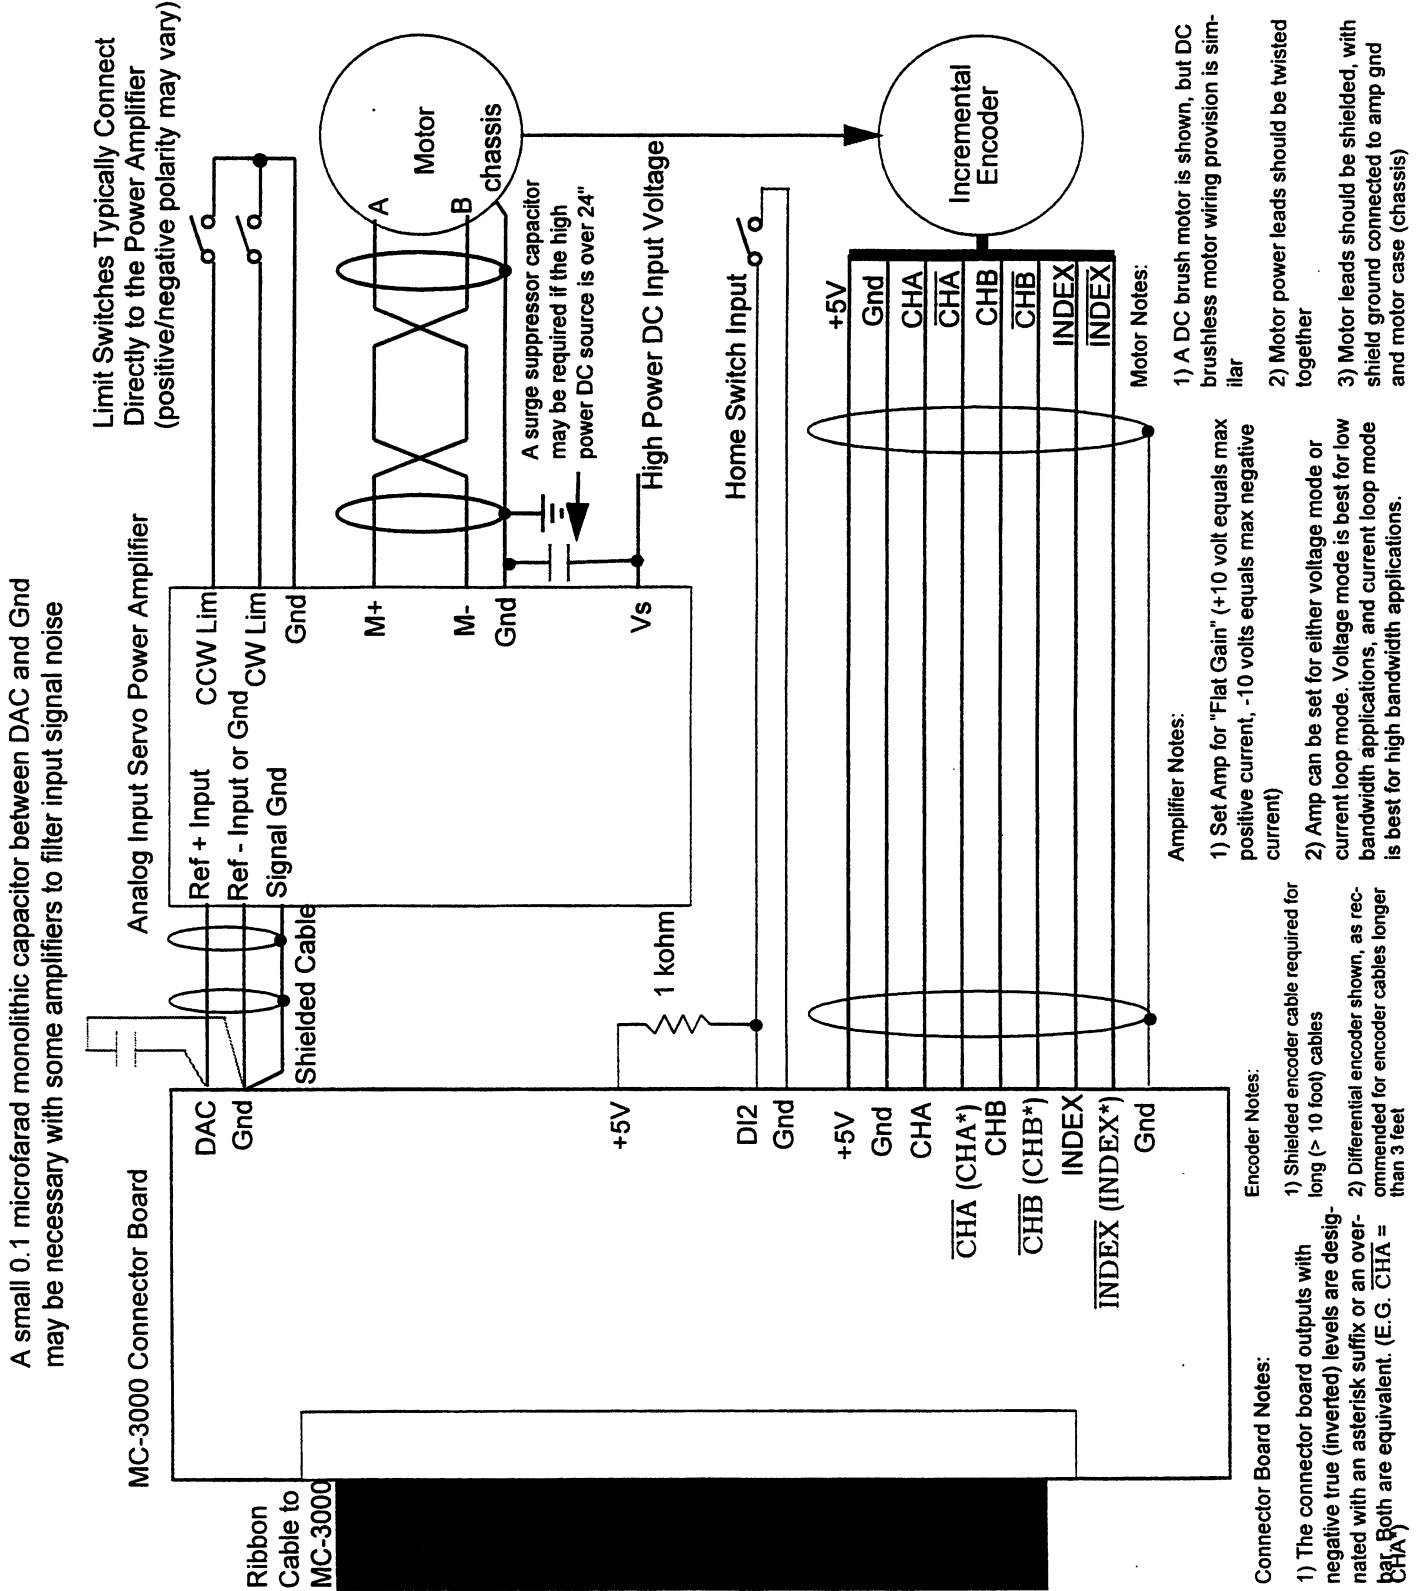
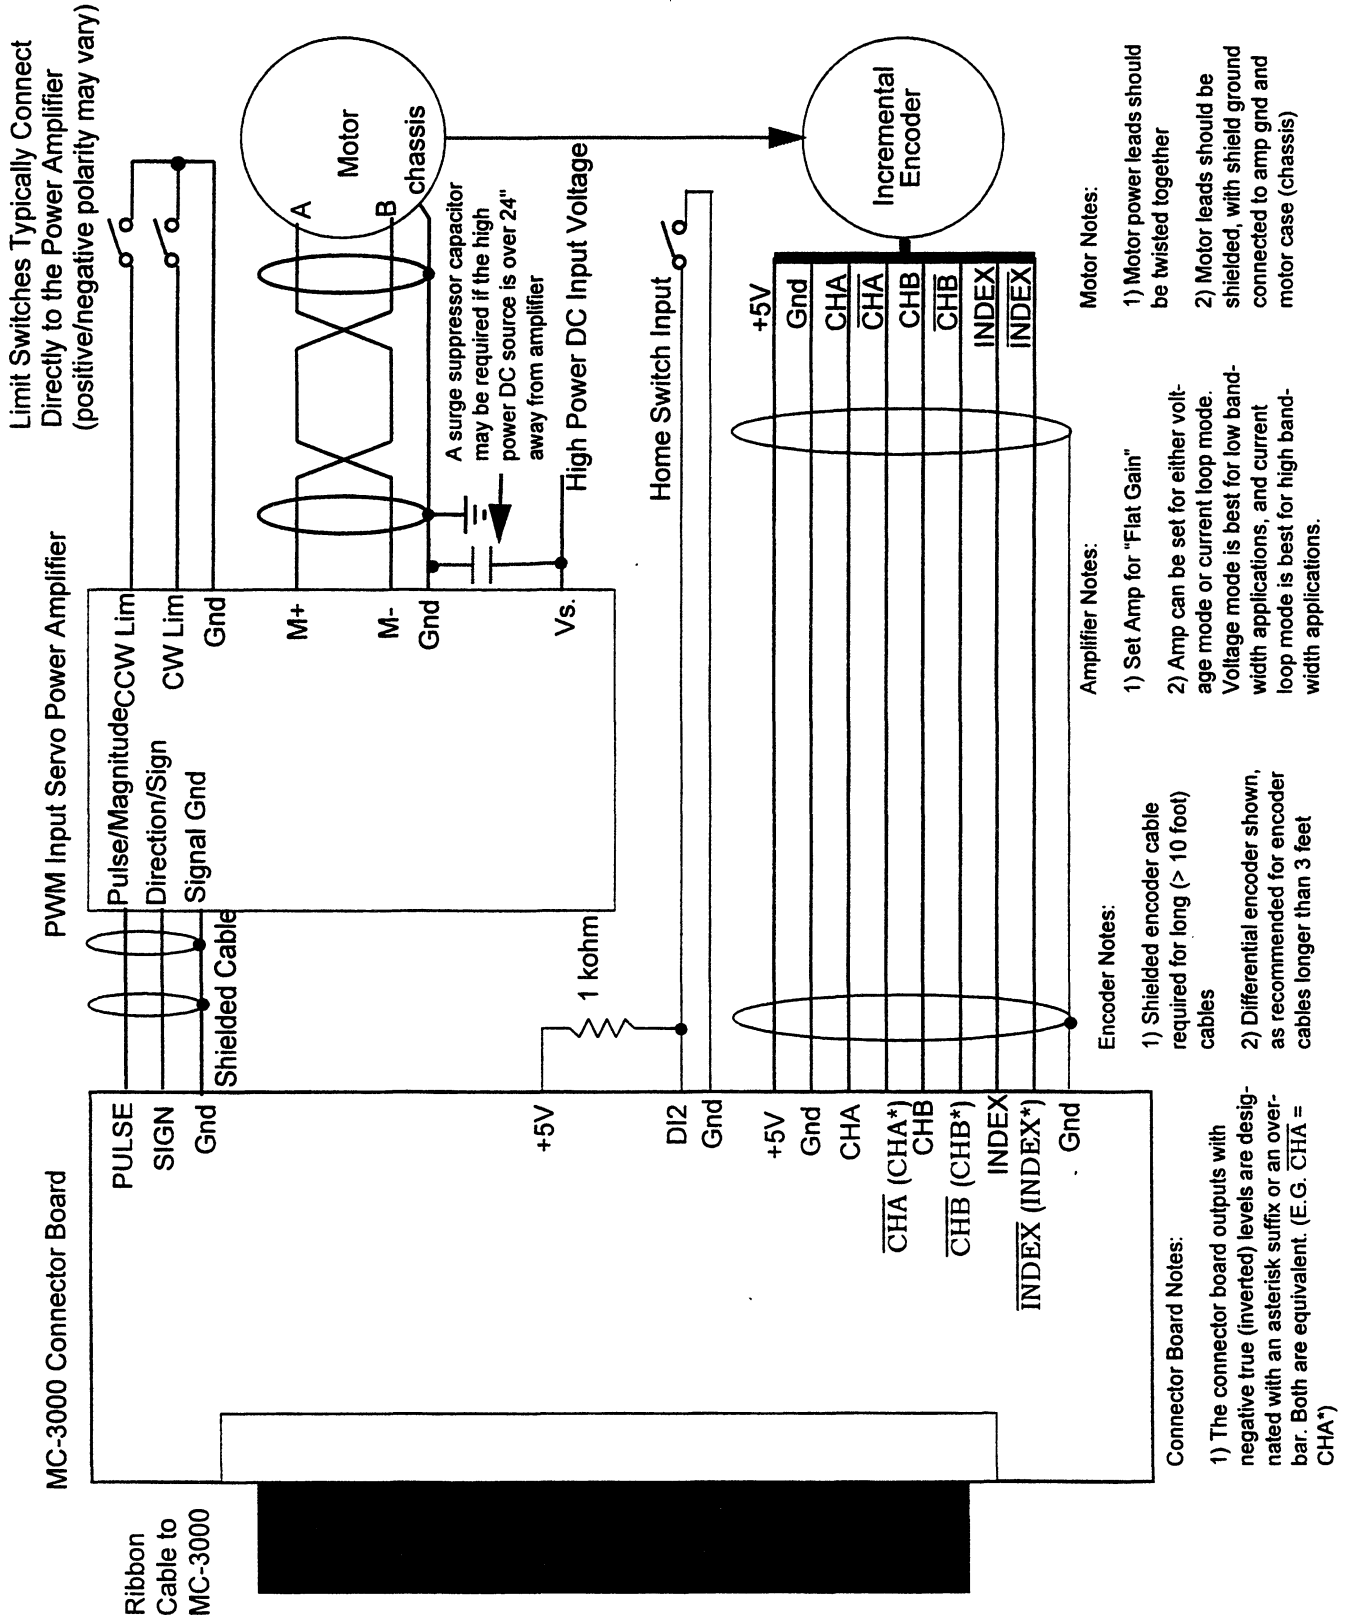

Figure 3 Connecting the MC-3000 to an Analog Input Servo Power Amplifier (One of Three Axis Shown for Clarity)
Figure 4 Connecting the MC-3000 to a PWM Input Servo Power Amplifier (One of Three Axis Shown for Clarity)
An analog input amplifier, typically with ± 10 volt input range, will require connecting the MC-3000 DAC voltage output and a common ground to the amplifier for the amplifier command signal. A diagram of this configuration is shown in Figure 3. Additionally it may be desirable to connect one of the digital outputs from the MC-3000 to the servo power amplifier as an enable input, although this is generally not necessary. Figure 3 also illustrates some general tips on good design practices for connecting the amplifier, motor, encoder, etc.
A PWM input amplifier will require connecting the PULSE and SIGN and a common ground from the MC-3000 to the amplifier. The MC-3000 outputs, PULSE and SIGN, are driven by TTL buffered drivers (74LS244), and have drive capacities as shown in the electrical specifications. The PULSE is the command magnitude, with ± 100 count resolution and 20 kHz modulation frequency. The SIGN is the direction control signal, that is a TTL logic low level (0) for reverse direction, and TTL logic high (1) for the positive direction. A block diagram of this configuration is shown in Figure 4.
The MC-3000 requires incremental encoder feedback to derive the actual position and velocity of the servo actuator (motor). Various types of encoders are possible, but some are better than others depending on your application. The main distinctions are that the encoder must be an incremental encoder, and not an absolute encoder. The MC-3000 can also accommodate single ended, TTL level output encoders, or differential line driver type output encoders. The single ended TTL level encoders are acceptable if short encoder cables are used, typically less than 3 feet. An encoder with a differential line driver should be used if longer encoder cables are required. Also the MC-3000 can accept encoder signals for two (A,B) or three (A, B, Index) channel incremental encoder inputs. Two is sufficient for normal operation, while three are required if the commutation option is to be used, or if the fine home option is used, allowing the motor to initialize its initial position with both a limit switch input and an index pulse occurrence. The encoder connections. Proper jumpering of JP1 through JP9 is required as discussed in section 2.2.2 to define the encoder input type as either single ended TTL levels or differential line driver type. Also proper shielding of the encoder cable is recommended, especially for long encoder cable installations, and Figure 3 and Figure 4 illustrate good practice for encoder cable shielding.
The preferred way to connect the incremental encoder to the MC-3000 connector board, is to use the MC-3000CB connector board terminal blocks. The terminal block connection approach was illustrated in Figure 3 and Figure 4. If a single ended TTL level encoder is used, the complimentary inputs $\overline{\text{CHA}}$, $\overline{\text{CHB}}$, and $\overline{\text{INDEX}}$ are not simply not connected.